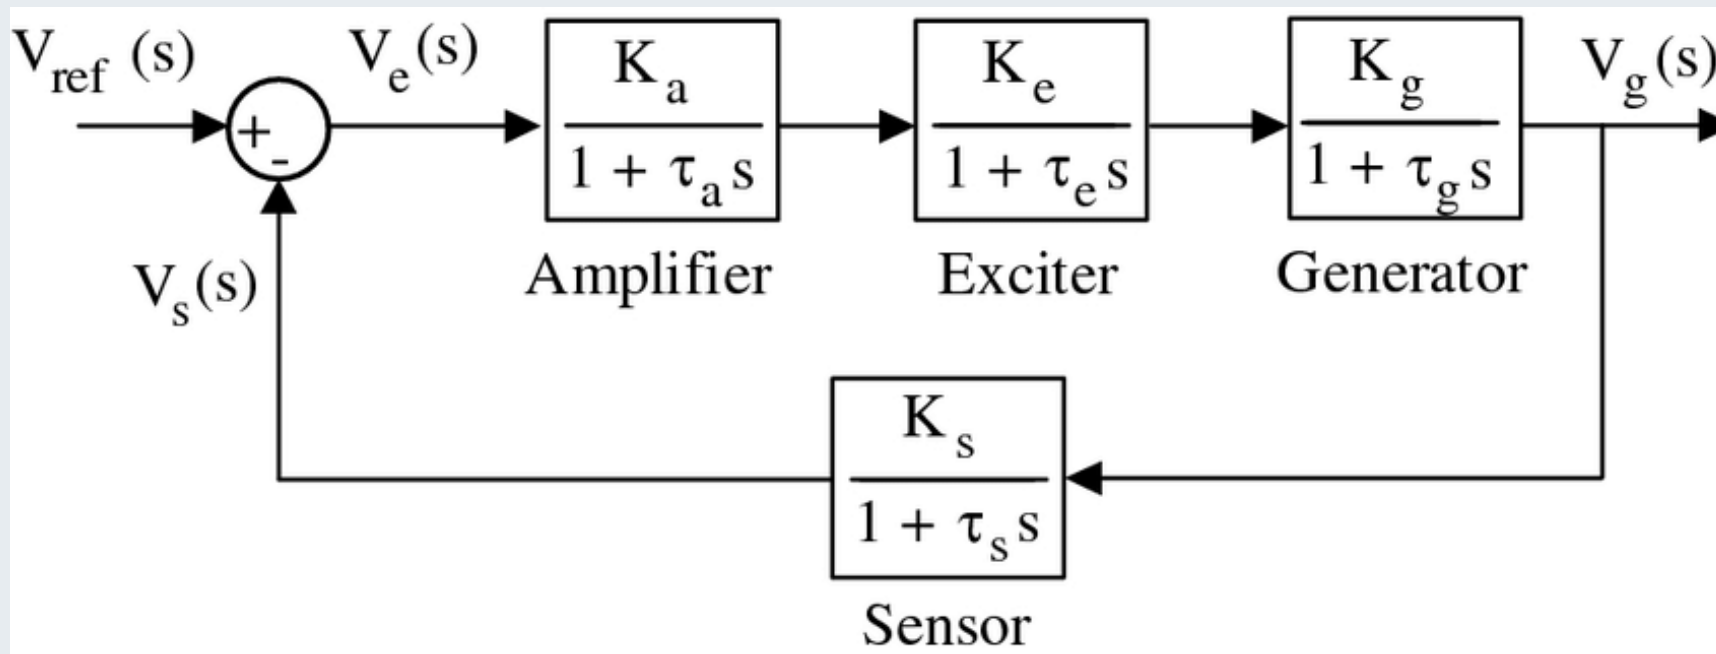

Figure 8. The AVR closed loop control block diagram.
- Finally, the voltage regulator loop is developed based on the above equations, eqn.1 to eqn.6 relationship and presented in Fig.8